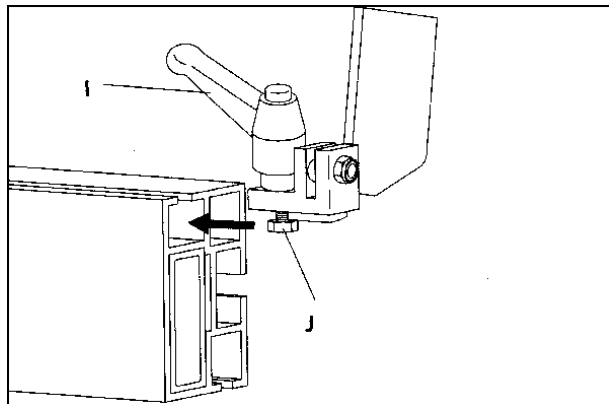
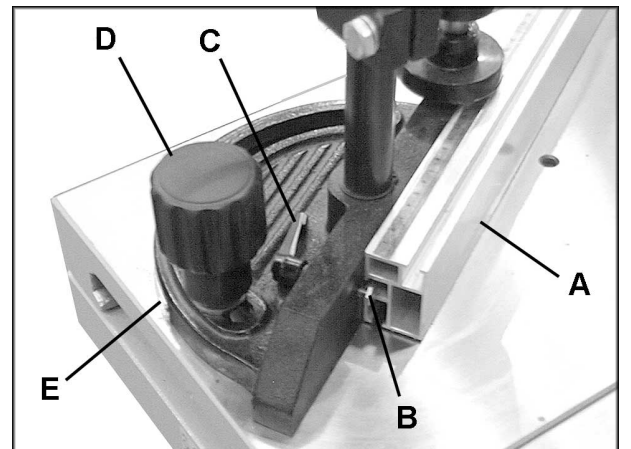

FIGURE 22
FIGURE 21
1. Slide the mitre fence (A) on to the two square nuts (B) that are attached to the threaded part of the locking levers (C). See Figure 21.
2. To slide mitre fence (A) to the left or right, loosen locking levers (C), slide fence (A) to the desired position and tighten locking levers (C). To change the angle of the fence loosen locking handle (D). A scale (E) is provided to indicate the mitre angle of the fence.
3. Loosen locking screw (I) and insert nut (J) of stock stop assembly into channel on end of fence as shown. See Figure 22.